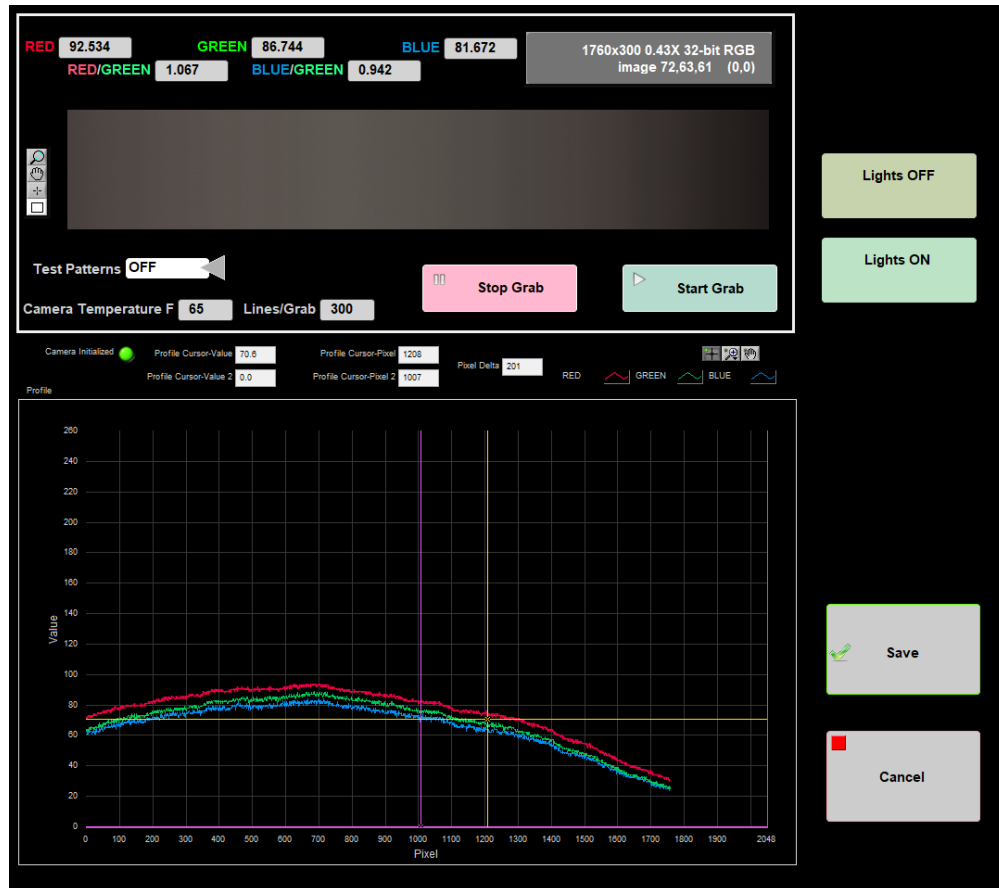

Figure 26. Grayscale card corresponding RGB Profile visible.
5. The RGB lines should first appear “bowed” evenly across profile and centered in the image (Figure 26). If not check the orientation of the gray mat, it needs to be **flat and perpendicular** to the camera. This very important. A wooden holder was designed to hold the mat, it should be in the SHIL calibration drawer.